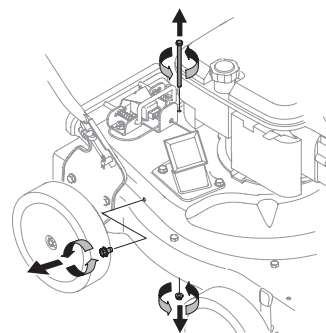

Figure 16
5. Remove self-tapping screw on right side of unit that attaches to the flail screen. It may be necessary to remove the hose bracket hanger (if equipped) to get access to the screw. See Figure 16.
6. Remove hex screw on top of rear housing near mounting bracket and the flange lock nut that secures flail screen. See Figure 16.